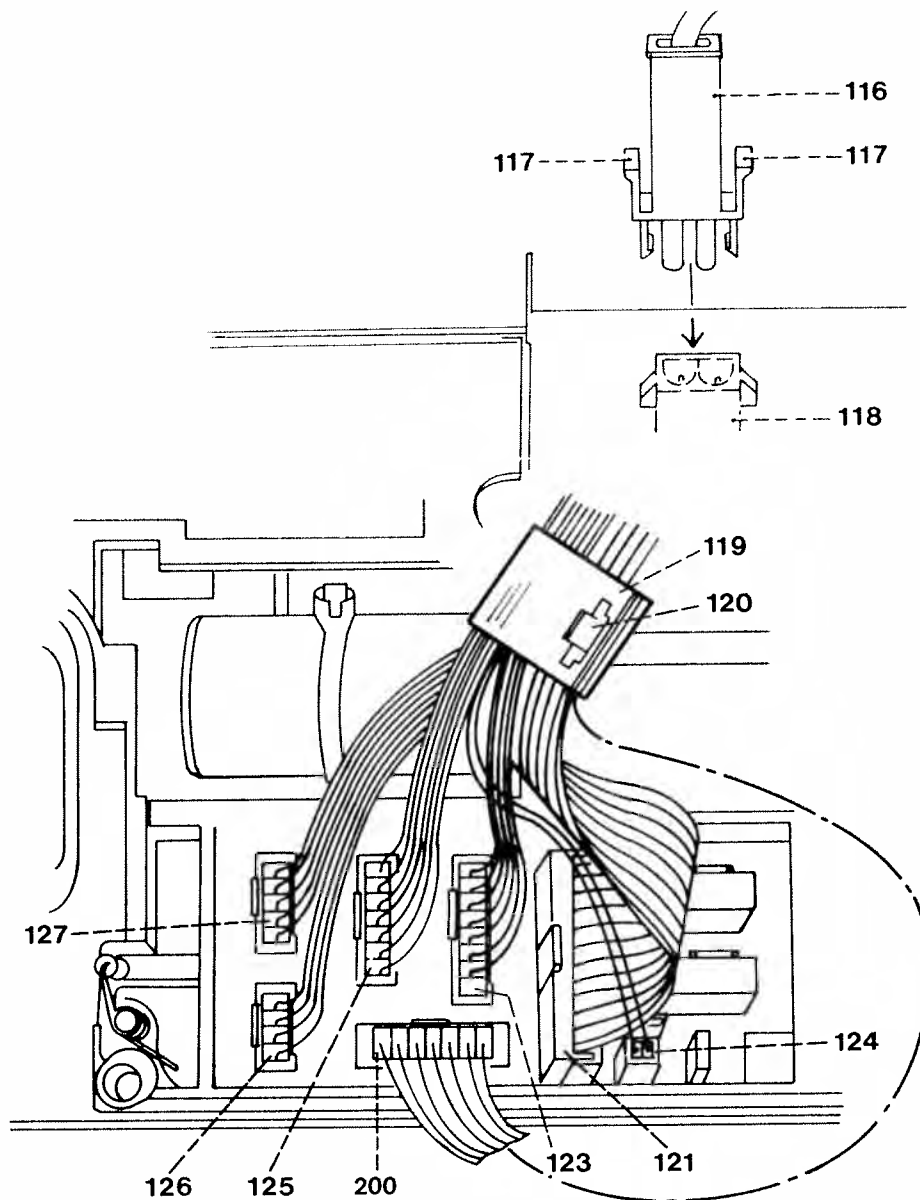

Fig. 39b
- Insert cable guide 180 and fasten with screw 181 (Fig. 39b).
- Lay the cables in the cable guides according to Fig. 39b.
- Hold the cables together according to Fig. 39b and fit a cable clip 119.